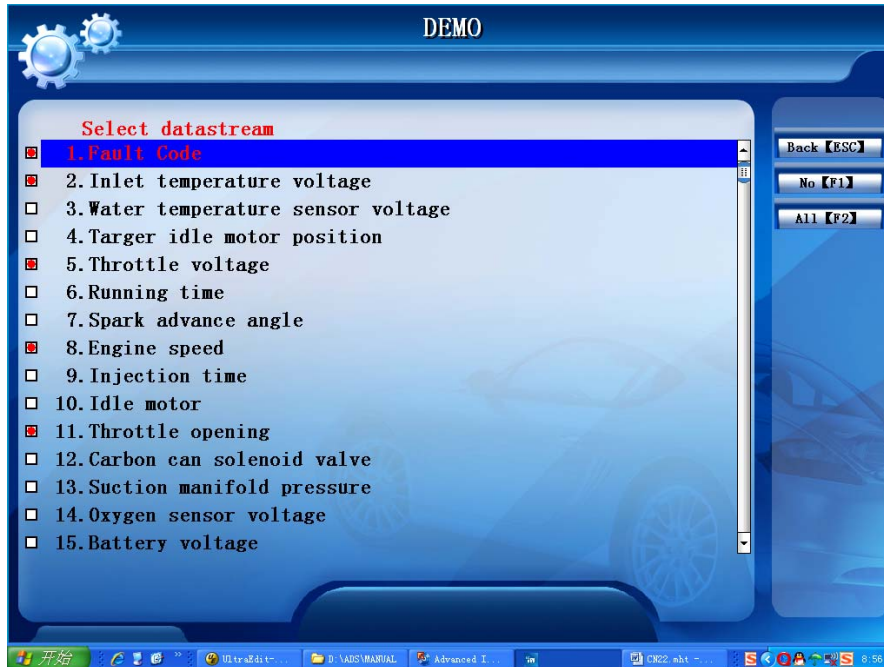

Figure-17
17. If you choose “Read data stream” then it appears the interface of choosing data stream, as shown in figure-17.